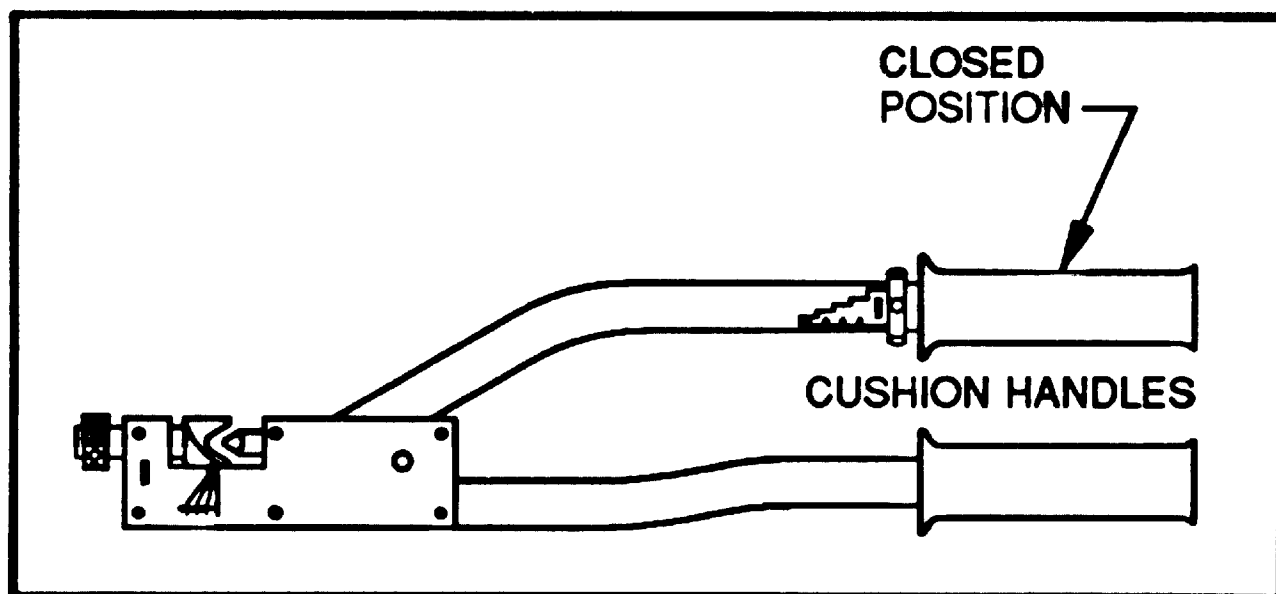

FIGURE 1
3. Place tool on any flat surface with handles fully closed. See Figure 1.